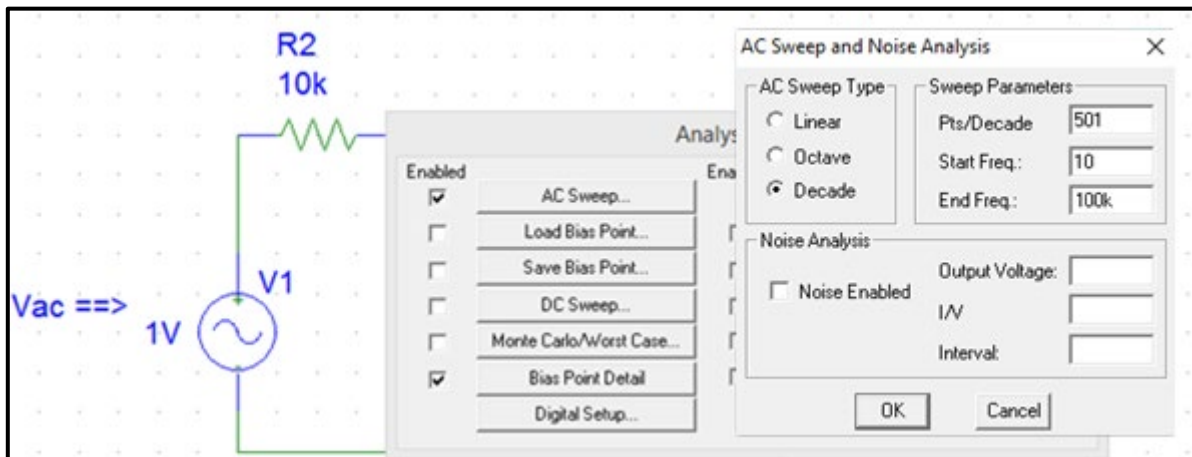

Figure 10.11
3. The setting of Vac source are shown in the figure 10.11.